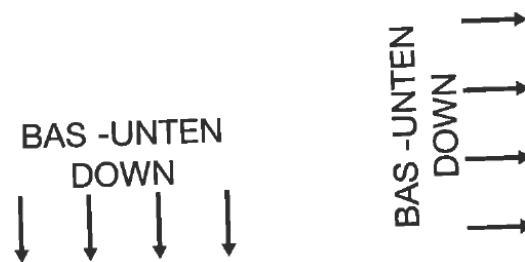

Figure 5 Label indicating orientation of glazing; this corner down.
- Glaze the Pyroguard glass with the stamp installed at the bottom edge as the sticker in Figure 5 indicates.